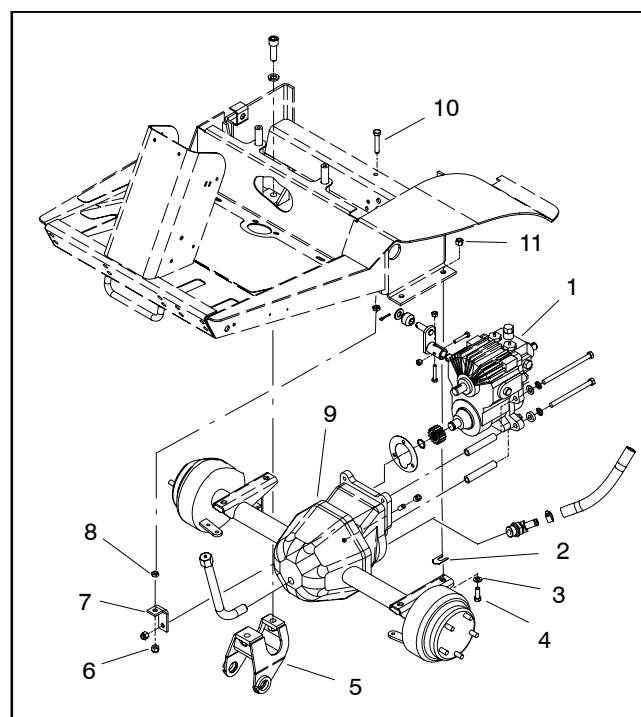

Figure 27
3. Loosen square head screws (item 7) that secure pump hub to transmission input shaft. Slide pump hub toward engine, align holes in pump hub with drive shaft flanges and place cap screws in holes.
5. If alignment adjustment is needed, loosen lock nut and jam nut that secure transmission anchor (Fig. 27).
8. Tighten upper jam nut (item 8) until it contacts top of transmission anchor and then tighten lock nut (item 6) below transmission anchor (Fig. 27).